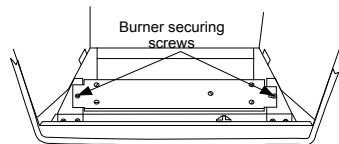
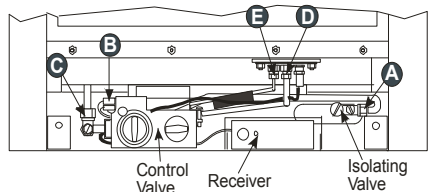

Figure 37
Figure 38
Referring to **Figure 37** and **Figure 38**:
2. Remove the main burner after removing the securing screws and lifting up the right hand side of the burner (see **Figure 37**).
5. Remove the main burner after removing the securing screws (see **Figure 37**).
6. Undo the nut securing the gas supply isolating elbow to the gas inlet tubing to the valve (Detail **A** in **Figure 38**).
7. Undo the nuts on the compression elbow underneath the injector and disengage the tubing (Detail **C** in **Figure 38**).
8. Remove the spark electrode from the pilot burner. Unscrew the tube nut below the pilot burner. Pull downwards and disengage the tube. The pilot injector will probably fall out. Keep it in a safe place (Detail **D** in **Figure 38**).